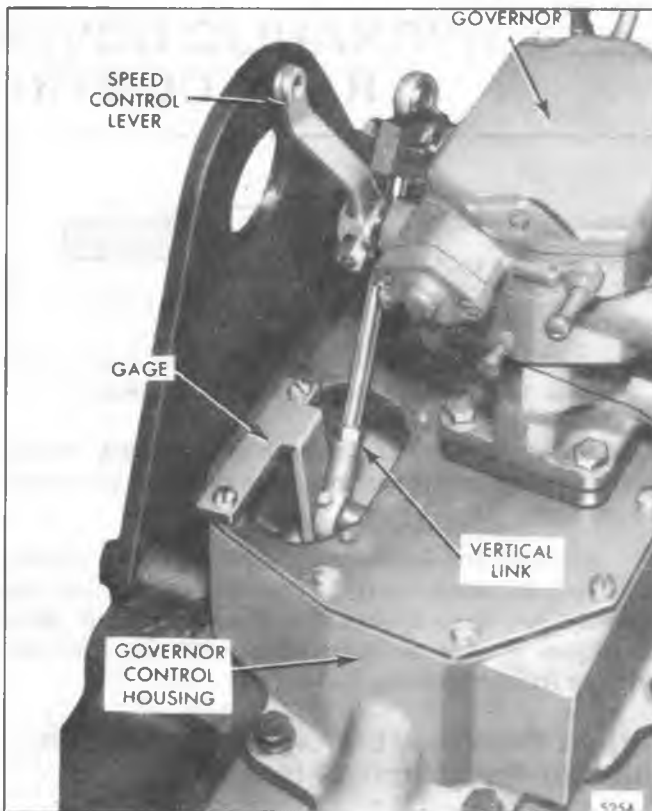

Fig. 5 - Positioning of Current Governor Operating Link with Vertical Link (Gage J 23475-01)
4. On current engines, position the linkage setting gage J 23475-01 as shown in Fig. 5. This will place the left-bank operating lever in the correct *no-fuel* position.
- a. With the fuel rod on the right-bank injector control tube removed and the fuel rod on the left-bank injector control tube installed, turn down the outer adjusting screw of the No. 1L injector rack control lever until the ball end of the lever is just snug against the injector rack (with the rack in the no-fuel position). Refer to Fig. 5.